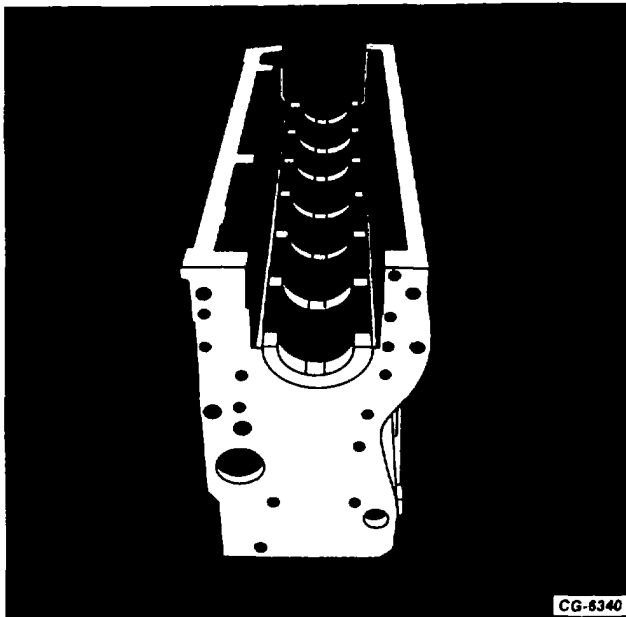

Figure 24. - Crankcase Bottom-Side-Up View
2. Support the crankcase bottom side up as shown in Fig. 24 using wooden blocks to level it.